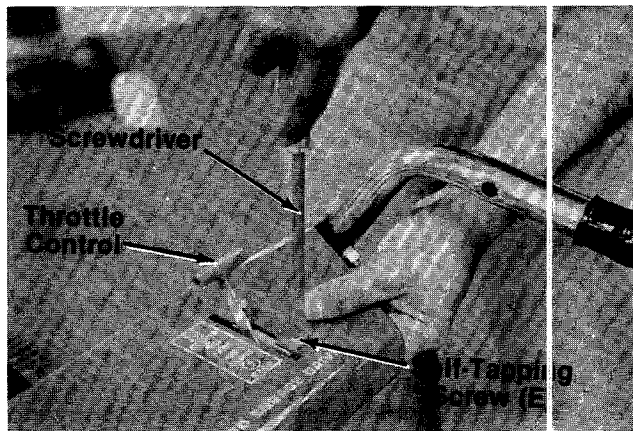

FIGURE 3.
- Place the speed nuts (F), flat side up, onto the throttle control. Place throttle control lever up through the hole in the handle panel. Secure with
- ← self-tapping screw (E) as shown in figure 3.